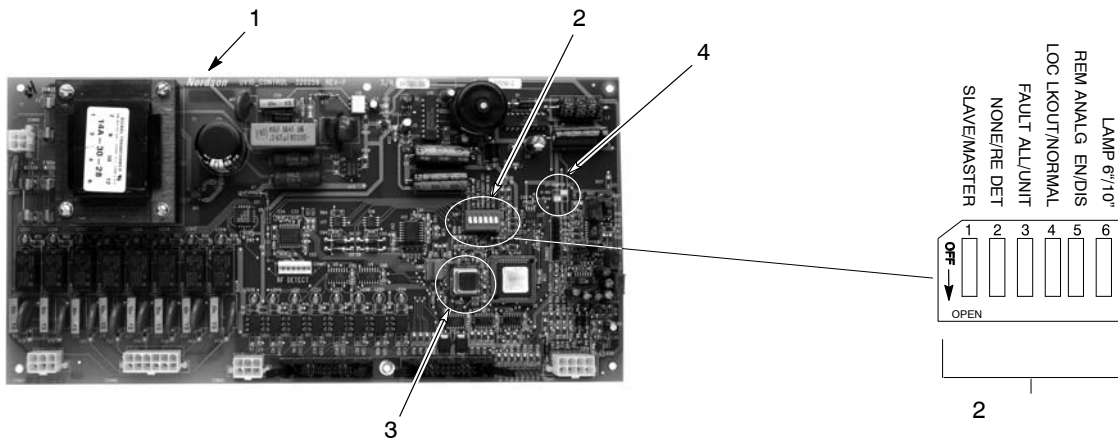

Figure 3-13 Main Control Board Manufactured before 2004
**NOTE:** Refer to Figure 3-13 for a photograph of main control boards manufactured before August 2004.
**NOTE:** The main control board was changed in August 2004. Figure 3-13 illustrates the previous control board.